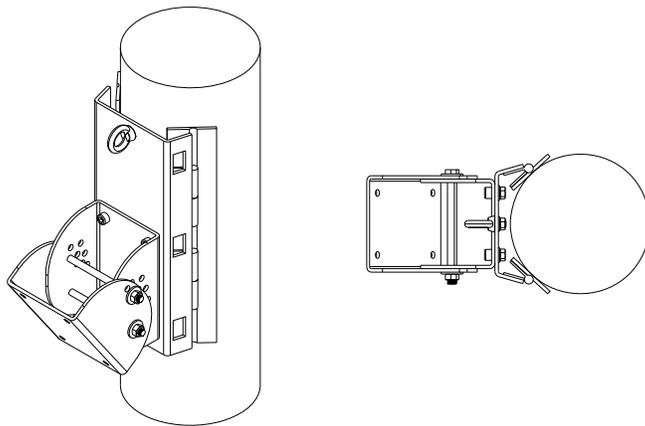
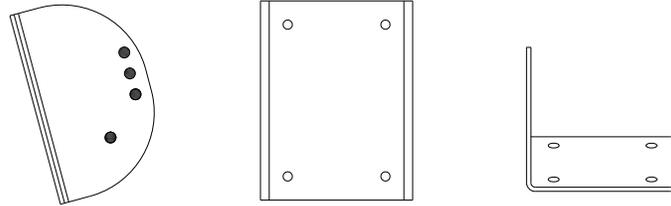
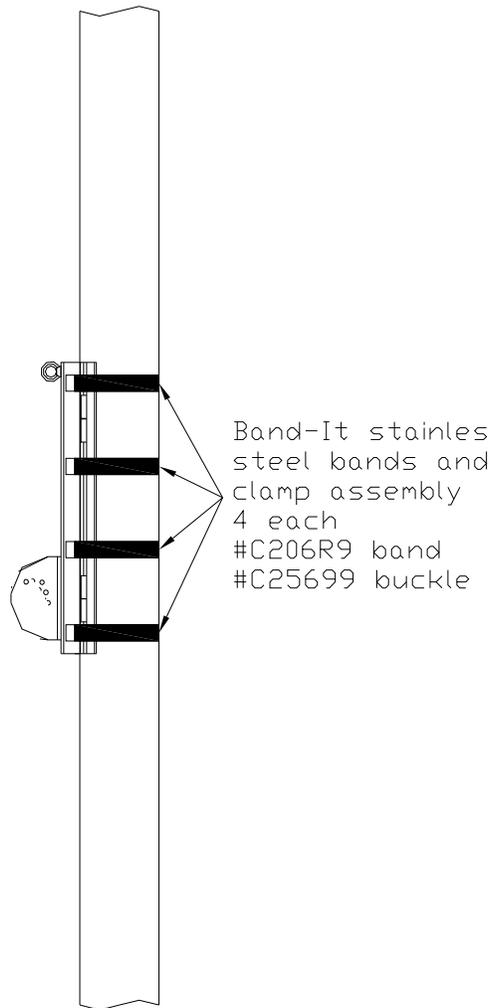

Figure 1.
Figure 2.
Figure 4.
The Pole Mount System EX consists of three parts: the pole bracket, the loudspeaker bracket, and the Safety Link. The pole bracket is shown in Figure 1. The bracket shown in figure 1 is designed for pole diameters of 8 inches (203.2mm) to 20 inches (508mm). The unique “self adjusting” hinge design of the pole mount will adjust to this specified range of pole diameters. Pole diameters smaller than 8 inches must not be used.
Figure 1 represents the isometric and top views of the pole bracket, including the loudspeaker bracket section. The loudspeaker bracket is shown separately in Figure 2.
1. Mount the pole mount section (see figure 1) of the bracket to the pole at the desired height on the pole. The bracket is mounted to the pole using BAND-IT stainless steel bands. **DO NOT SUSTITUTE** bands of other material or other widths! There are four locations on the pole bracket for bands. **ALL FOUR LOCATIONS MUST BE USED.** Figure 4 illustrates the locations for the stainless steel band clamps.